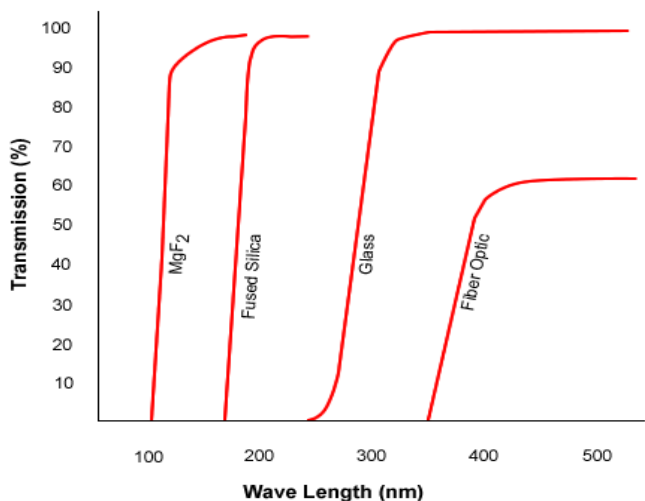

Figure 2: Transmission of input windows.
PHOTOCATHODE - The input window of an image intensifier is selected to have good transmission for the light being imaged and typically determines the short wavelength response of the image intensifier. Example window materials are given in Figure 2. The photocathode is a thin film semiconductor grown on the inside surface of the glass input window. The photocathode material is selected to provide high sensitivity to the light being imaged. When a photon, or quanta of light, is absorbed in the photocathode an electron is freed and can be emitted from the vacuum surface of the photocathode as a photo-electron (pe). The photocathode’s Quantum Efficiency (QE) is defined as the ratio of photoelectrons emitted from the photocathode’s surface (N_{pe}) to the number of photons incident on the photocathode ($N_{photons}$). The
1. Lower wavelength cut-off is determined by the input window given in Figure 2, Fused Silica is assumed except for CsI which uses MgF₂.